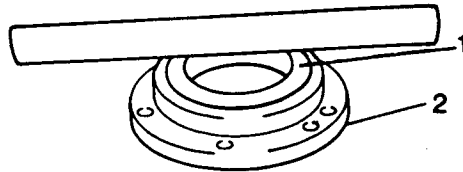

Fig H1.58
- (1) Refer to Fig H1.58. Fit the new oil seal (1) in the cover (2) in such a way so that the rear part is level with the rear part of the cover.
- (2) Fit the spacer bush, leaving the extractor holes towards the outside.
- (3) Apply a film of SAE 90 EP oil on the lips of the oil seal.
- (4) Refit the gearbox rear oil seal retainer (see Sub-sub-section H1.3, Chapter 10).